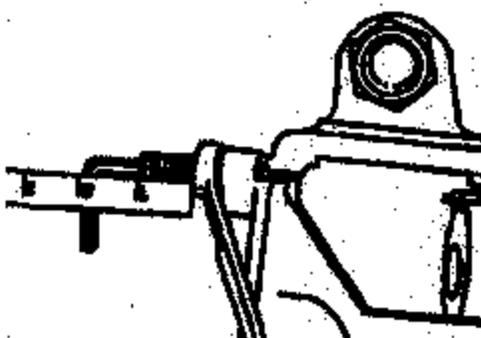

Figure 23
- Loosen the sealing nut and back off the adjusting screw until 1" (25.4mm) past the nut. Tighten the sealing nut against the housing (**Figure 23**).